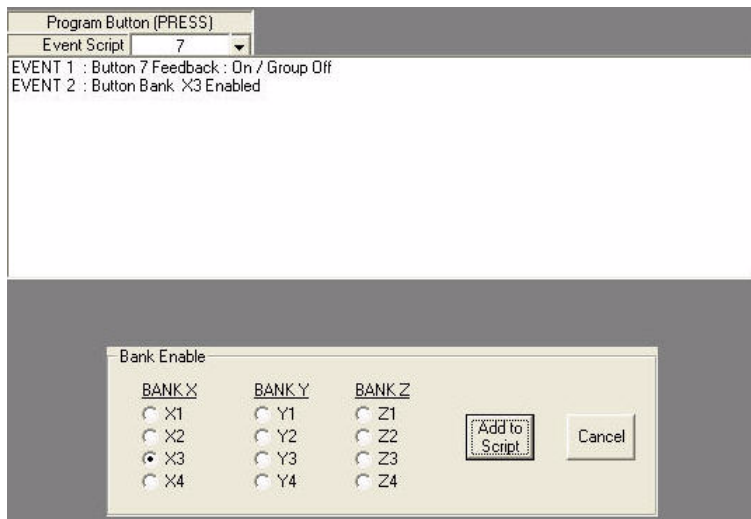

FIG. 97 Button 7 script, with Enable X3 Bank selected
7. Write a script and include Enable Bank X3 (FIG. 97).